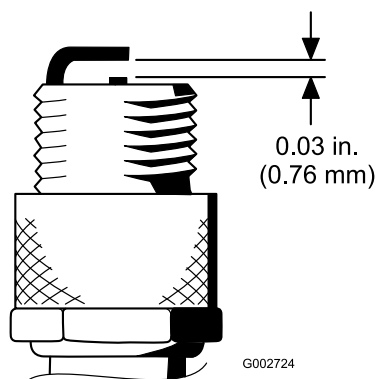

Figure 45
4. Set the air gap between the center and side of the electrodes at 0.76 mm (0.030 inch) (Figure 45).